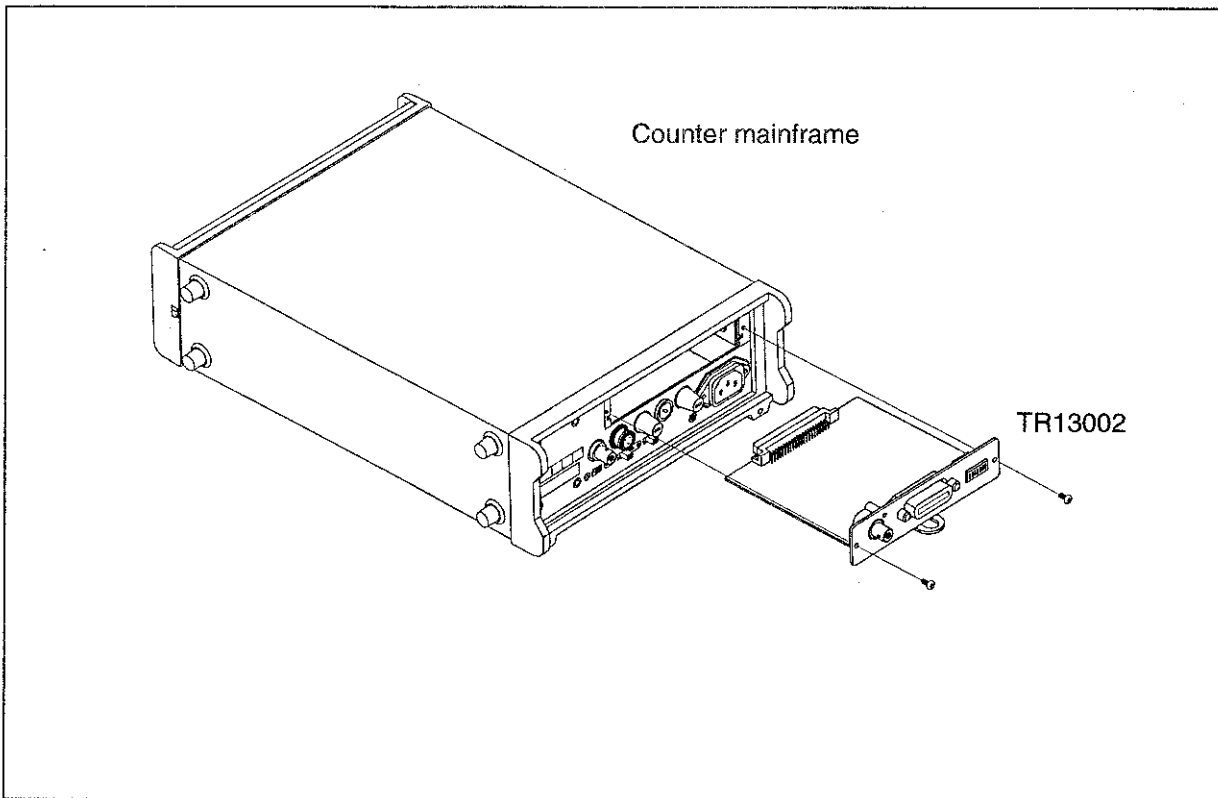

Figure 9-4 Installing the R13002B Adapter
- ③ Install the unit in the counter as shown in Figure 9-4.
- ④ Plug the power cable into the rear socket, then set the STBY switch to .